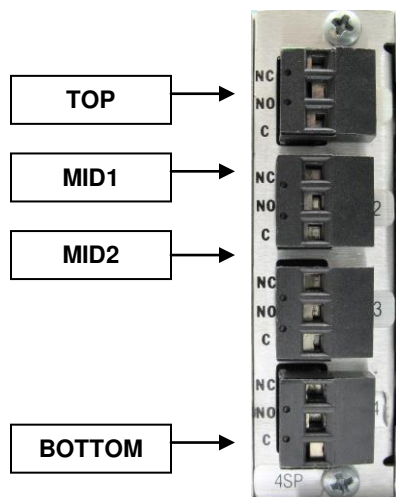

Fig. 3.5 - Rear Panel of the Setpoint Relay Module
SETPOINT RELAY MODULE - The rear panel of the setpoint process control relay module is shown in Fig. 3.5. Three (3) terminals are available for each of the four (4) relays. These are NC (Normally Closed), NO (Normally Open) and C (Common).